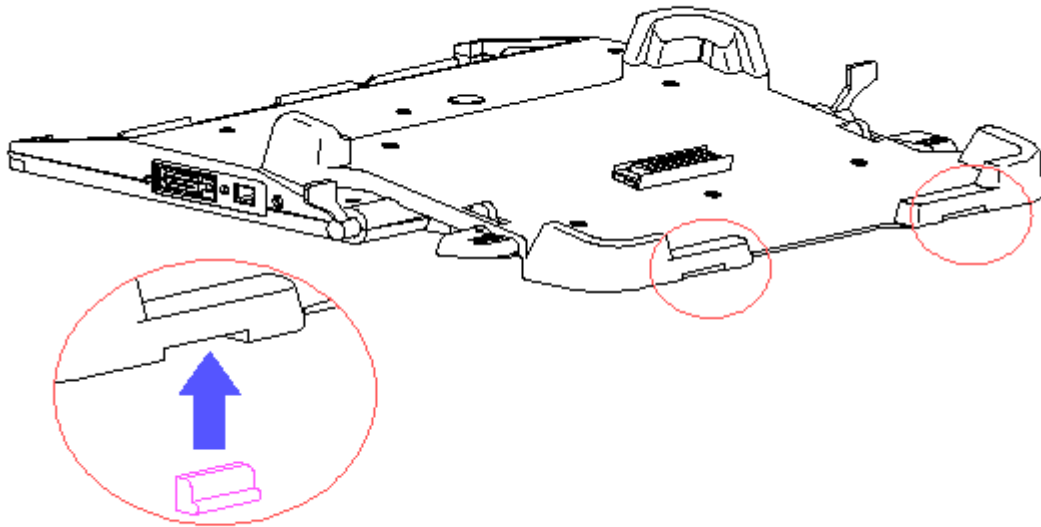

Figure 4-2. Front Feet Replacement
3. Install a replacement foot by sliding it into place (Figure 4-2).